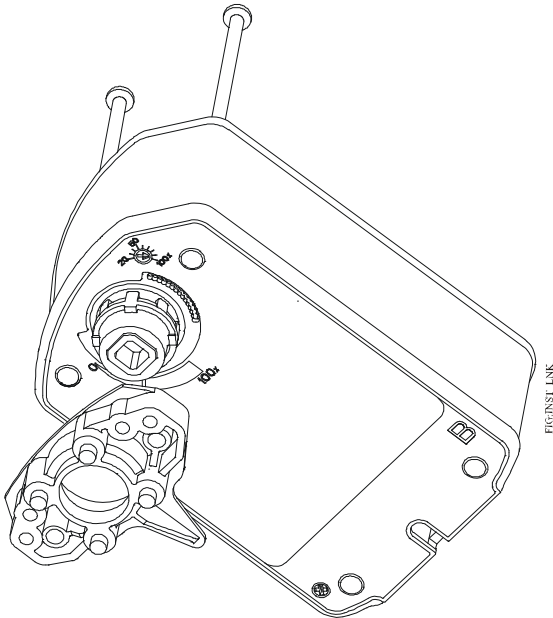

Figure 7: Installing the linkage
5. Install linkage base on Side B using the two #10-14 x 2.75 in. long screws (Figure 7). The recommended torque is 20 to 24 lb·in. (2.3 to 2.7 N·m).